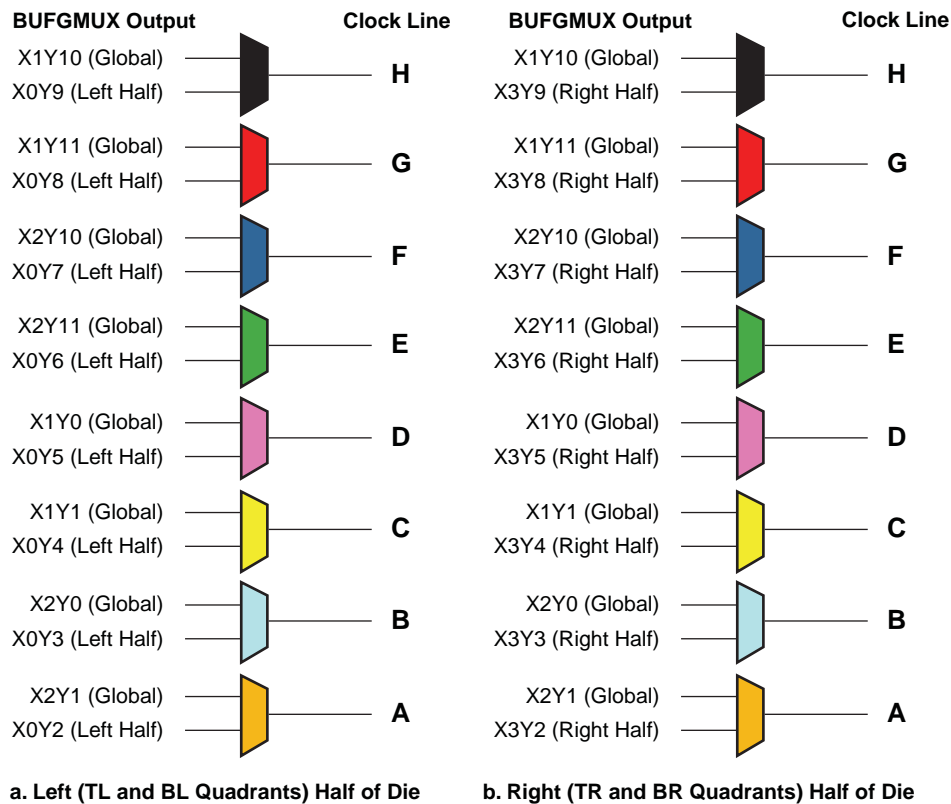

Figure 47: Clock Sources for the Eight Clock Lines within a Clock Quadrant
2. See Figure 45 for specific BUFGMUX locations, and Figure 47 for information on how BUFGMUX elements drive onto a specific clock line within a quadrant.
The clock routing within the FPGA is quadrant-based, as shown in Figure 45. Each clock quadrant supports eight total clock signals, labeled 'A' through 'H' in Table 41 and Figure 47. The clock source for an individual clock line originates either from a global BUFGMUX element along the top and bottom edges or from a BUFGMUX element along the associated edge, as shown in Figure 47. The clock lines feed the synchronous resource elements (CLBs, IOBs, block RAM, multipliers, and DCMs) within the quadrant.
Each of the eight clock signals in a clock quadrant derives either from a global clock signal or a half clock signal. In other words, there are up to 24 total potential clock inputs to the FPGA, eight of which can connect to clocked elements in a single clock quadrant. Figure 47 shows how the clock lines in each quadrant are selected from associated BUFGMUX sources. For example, if quadrant clock 'A' in the bottom left (BL) quadrant originates from BUFGMUX\_X2Y1, then the clock signal from BUFGMUX\_X0Y2 is unavailable in the bottom left quadrant. However, the top left (TL) quadrant clock 'A' can still solely use the output from either BUFGMUX\_X2Y1 or BUFGMUX\_X0Y2 as the source.